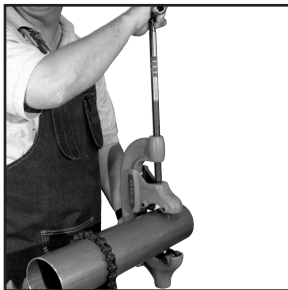

Figure 1: Cut tube to desired length using a tube cutter
1. Select clean, undamaged copper tube and cut to the desired length. Cut tube end square using a tube cutter or fine-toothed saw. Do not crimp over damaged, scratched, gouged, or otherwise damaged tubing. Do not crimp over etch print streams on tubing (Figure 1).